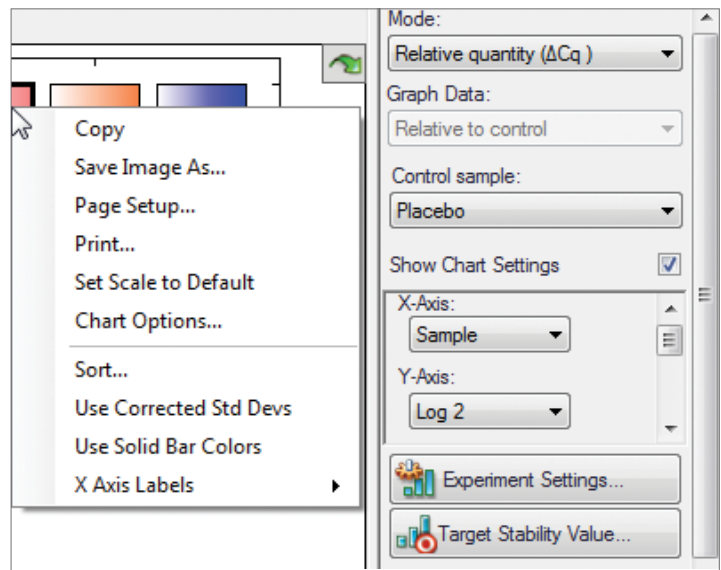

Fig. 5. Graphing options and right-click graph menu for bar charts.
Select the analysis mode from the Mode dropdown menu (Figure 5):
- Select from the Graph Data dropdown menu (Figure 5) to display graph data relative to control (originating at 1) or relative to zero. In log scale, the Graph Data option defaults to relative to control
- Click the **Show Chart Settings** box and select from the X-Axis dropdown menu (Figure 5) to display Sample or Target on the x-axis
- Select from the Y-Axis dropdown menu (Figure 5) to use Linear, Log 2, or Log 10 as the y-axis scale
- Choose the **Sort** option on the right-click graph menu (Figure 5) to customize the presentation order on the x-axis